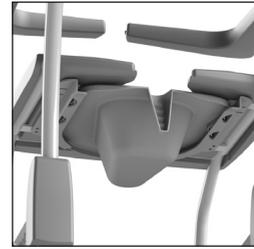

Figure 17 Bedpan.
- The bedpan or bucket is slid in from the back of the chair (See *figure 17*).